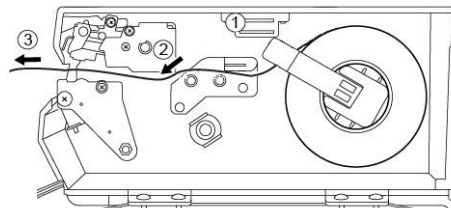

Figure 7-5. Thread Paper
- Thread the paper as shown in Figure 7-5